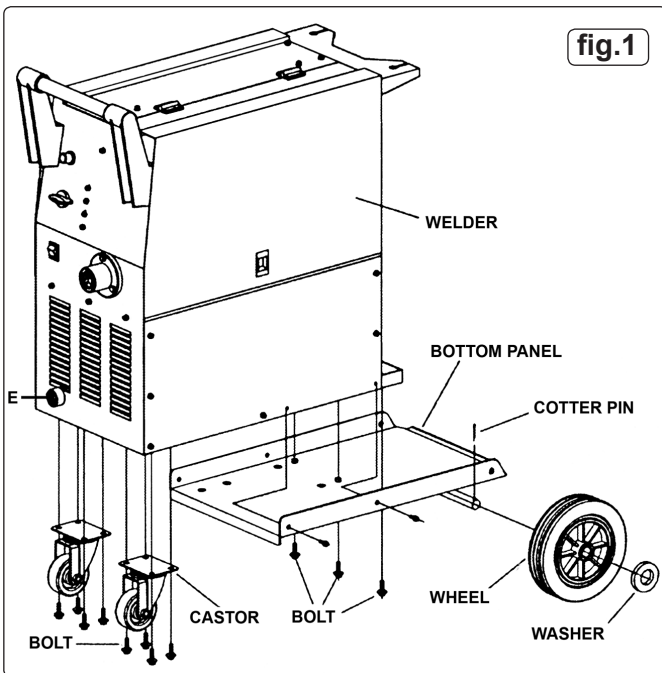

fig.1
- 3.1 ASSEMBLING THE FRONT CASTORS:** (Refer to fig.1)
- 3.2 ASSEMBLING THE BOTTOM PANEL & REAR WHEELS:** (Refer to fig.1)